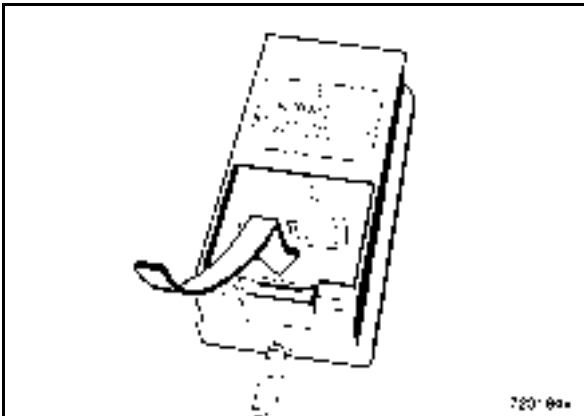

Fig. 79
- Insert the power pack into the battery charger (Fig. 79).